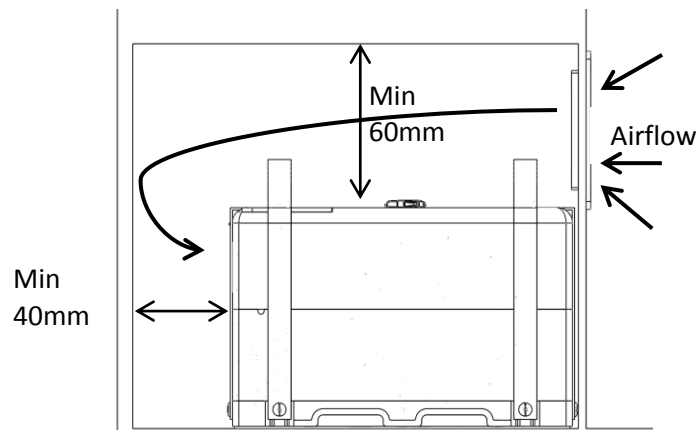

Figure 2-Minimum distances between the unit and the surrounding walls if the filter is on the opposite side compared to the return air grille
- If this is not possible then there must be at least a 40mm gap between the wall/cupboard/seat and the filter of the Sandpiper and a 60mm gap between the top of the unit and the wall/cupboard/seat (Figure 2)